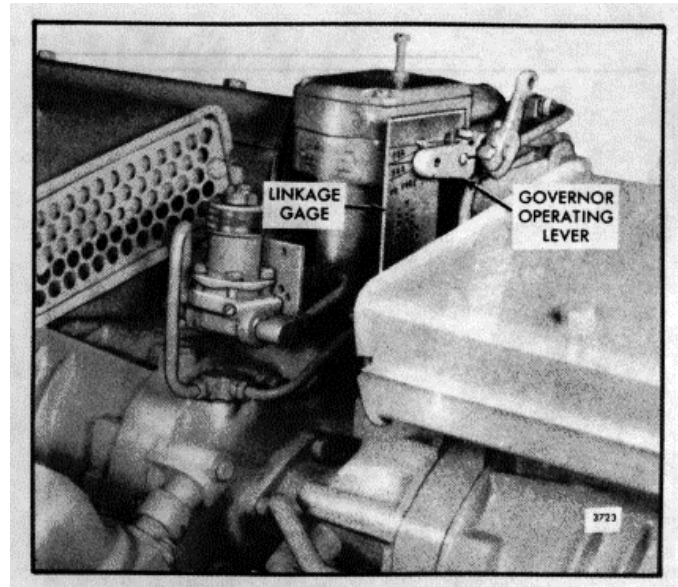

Fig. 16. - Governor Operating Lever in Position
13. Replace the governor operating lever on the serrated shaft so that the bolt hole is lined up within the proper lines on the gage. The type of governor (SGX or PSG) will determine the proper position of the lever (Fig. 16).